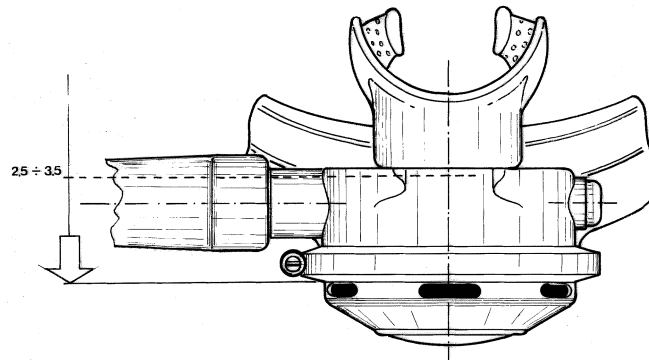

FIG. 7
- B. WHEN THE WATER LEVEL, MEASURED FROM THE POINT INDICATED IN THE DIAGRAM (FIG. 7) FALLS BETWEEN THE CRACKING VALUES INDICATED IN THE TABLE, THE AIR SHOULD START TO FLOW. (SEE TAB. A)
CLASSIC	POINT INDICATED IN THE FIGURE (Fig. 7)